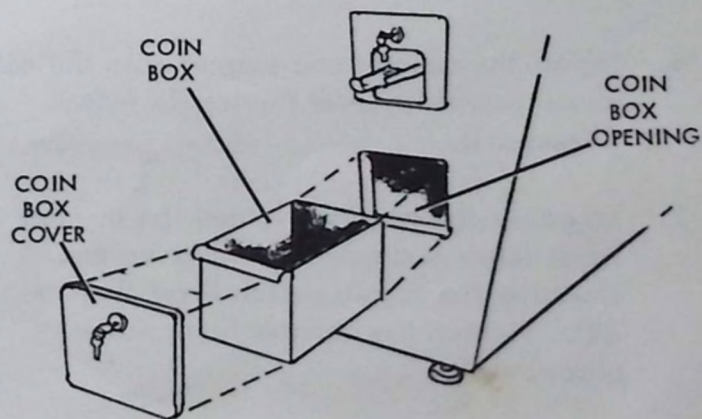

FIGURE 27
38. Place the coin box into opening provided and install locked cover (Figure 27).